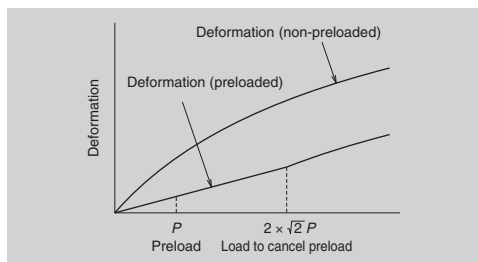

Fig. 3.2 Elastic deformation
- In general, a load range of ball guide system in which the preload is effective becomes about 2.8 times of the preload (Fig.3.2). For roller guide system, it becomes about 2.2 times of the preload.